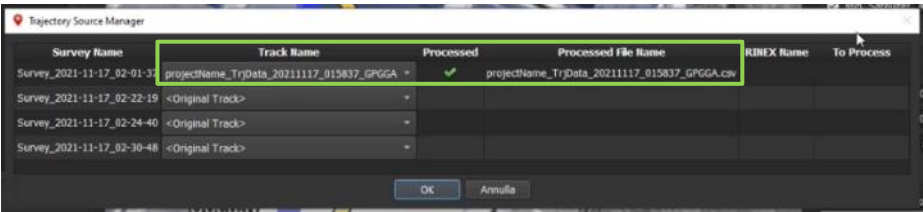
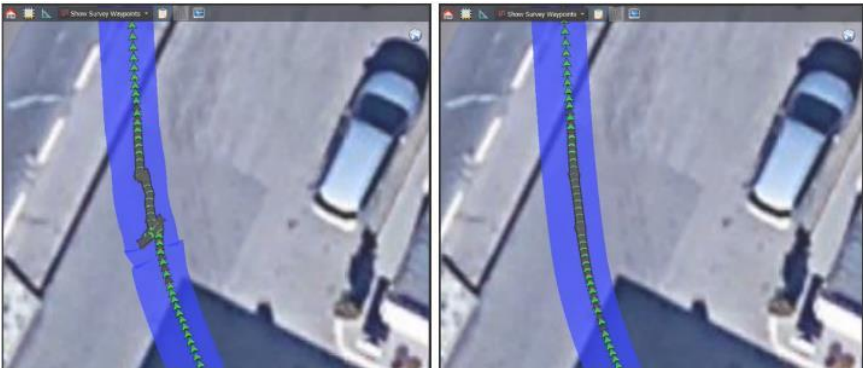

Fig. 89 – Correction file selection
Fig. 90 – Correction file selection
4. When processing ends, a new trajectory file (**GPGGA.cvs**) will automatically replace the original one (**TrjData.gps**; Fig. 89) by correcting possible trajectories drifts (Fig. 90).